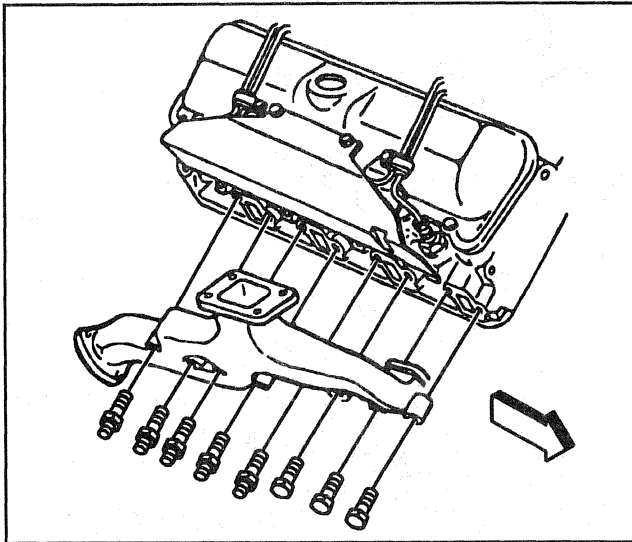

Figure 10—Exhaust Manifold and Heat Shield
12. Turbocharger assembly and exhaust manifold (Figures 10 and 11).
**Install or Connect (Figures 10 through 13)**
1. Turbocharger assembly and the exhaust manifold (Figures 10 and 11).